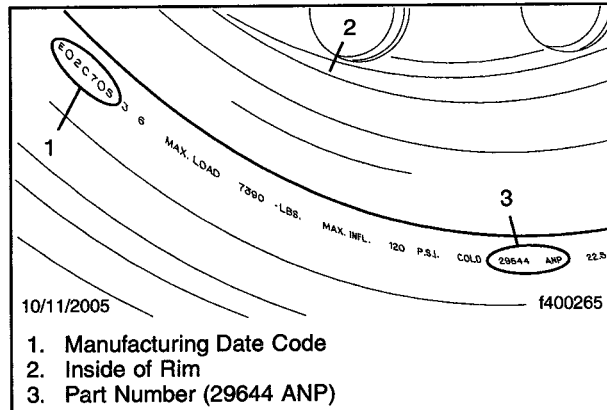

Fig. 1, Wheel Inspection (front wheel shown)
3. Inspect the wheels for the manufacturer's date stamp and part number 29644 ANP. The first six digits of the stamp are the manufacturing date (day, month, year). The manufacturing dates covered by this recall are January 15, 2005, through January 17, 2005 (one of these three date codes: 011505, 011605, or 011705). See Fig. 1.